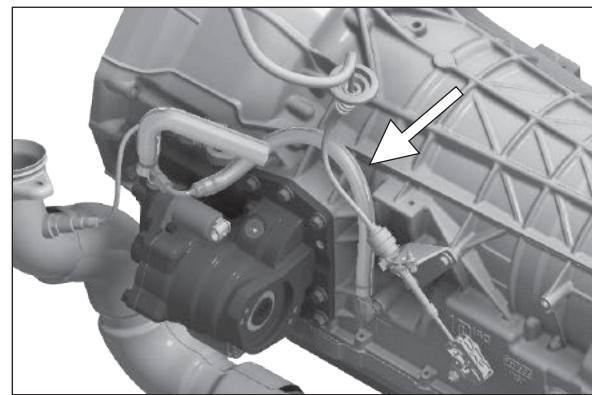
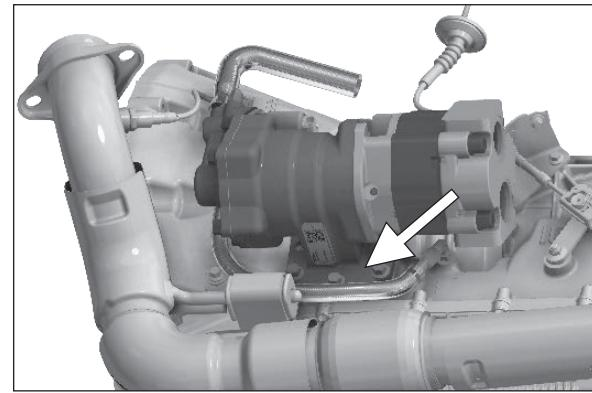

Figure 23
Figure 24
11. Connect hose assembly (PN 329784-3X) to the 90-degree fitting previously installed on the transmission. Chelsea recommends all hoses be routed above the PTO as shown in (Fig. 23). Some large pumps may require lube hose to be routed below the PTO (Fig. 24) due to clearance to the transmission fitting. Hold hose fitting in desired position and tighten lock nut with a wrench until solid feeling is encountered. From that point, apply one-sixth turn. Next, connect the other end of the hose to fitting on the PTO valve cap. Tighten until solid feeling is encountered. From that point, apply one-sixth turn.
12. For Gas applications, thermal sleeving is required for lube hose assembly. Slide sleeve over lube hose. Secure sleeve with included steel cable ties to metal hose ends of the assembly (Fig. 24).
NOTE: If smaller pumps (PGP511 or similar) are used on 4x4 applications, hose should be routed behind the pump and above the PTO. On gas applications, routing the hose above the pump is highly recommended if possible to maintain maximum clearance from the vehicle exhaust. The provided heat sleeve should also be installed (Fig. 23).
NOTE: If larger pumps (PGP315, P16, or similar) are used on 4x4 applications, the pump body may not allow the hose to be routed behind the pump. In these applications, the hose may be routed beneath the PTO and for gas applications the provided heat sleeve must be used to prevent damage to the hose (Fig. 24).